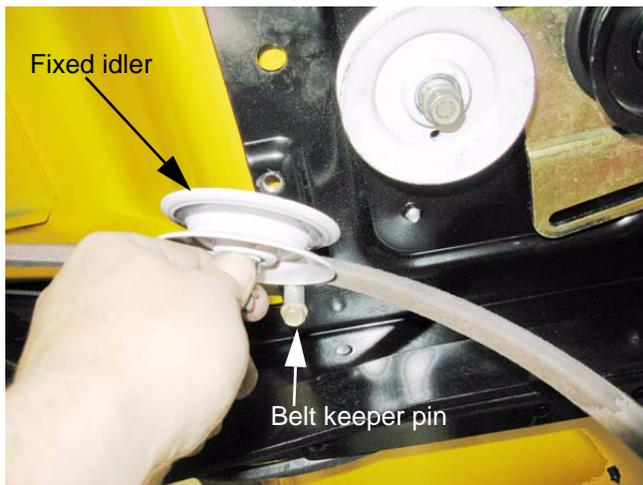

Figure 5.50
7. Remove the single, fixed idler from the frame of the tractor using a 1/2" wrench. See Figure 5.50.